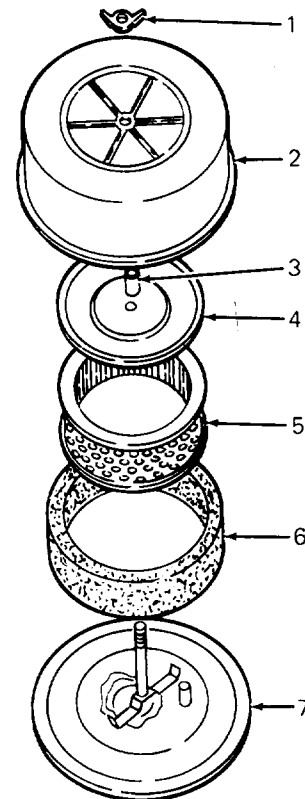

Figure 32. Air Cleaner Assembly
1. Remove wing nut and cover. (See Figure 32.)
and if necessary replaced more often under extremely dirty, dusty conditions. Do not wash element in any liquid or attempt to blow dirt off with air hose as this will puncture filter element. Carefully handle new element — do not use if gasket surfaces are bent or twisted. Check the following when installing a new element: (See Figure 32.)